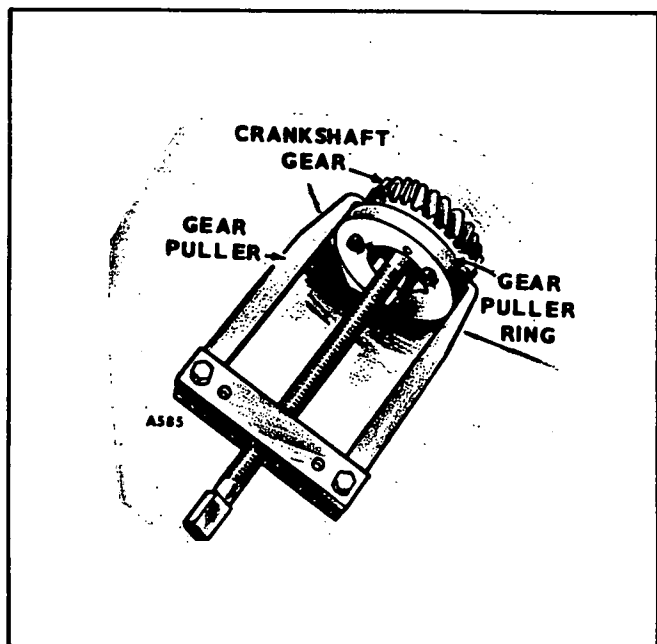

FIGURE 56. REMOVING CRANKSHAFT GEAR
2. Pull off the crankshaft gear. It has 2-1/4-20 UNC tapped holes for attaching a gear pulling ring. Use care not to damage teeth if the gear is to be re-used. See Figure 56.